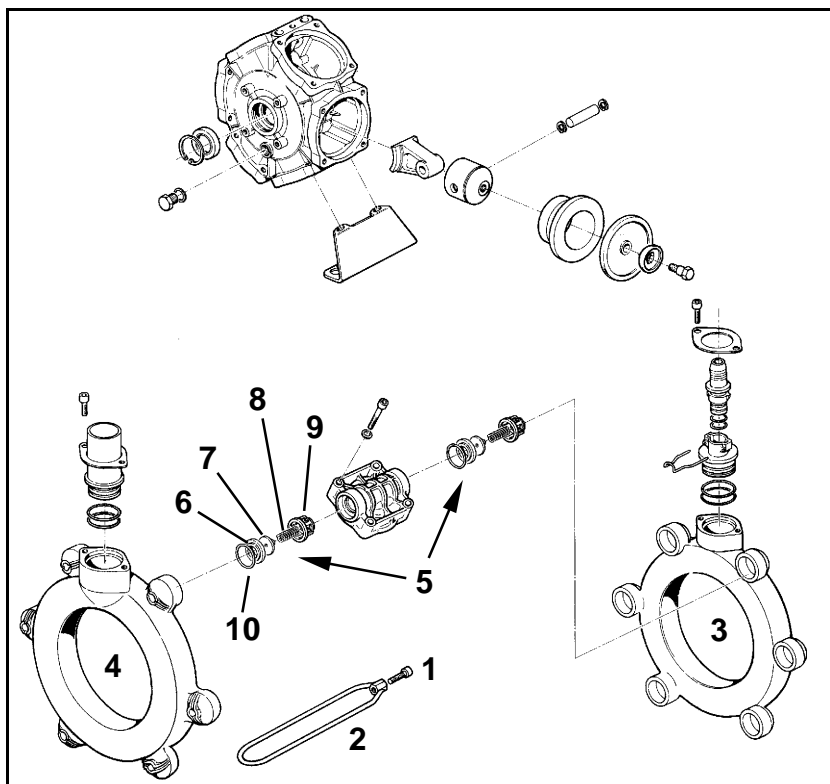

Fig. 220
- Pay attention to the fitting position of the suction- and pressure-side valves, before you remove the valve groups (Fig. 220/5).
- When refitting watch that the valve guide (Fig. 220/9) will not be damaged. Damage could lead to blockage of valves.
- Tighten bolts (Fig. 220/1) diagonally with the torque stated. Inaccurately tightened bolts will cause tensioning and thus leakage.
2. Slacken bolt (Fig. 220/1) and remove tensioning clamp (Fig. 220/2).
3. Take off suction- and pressure channel (Fig. 220/3 and Fig. 220/3).
4. Take off valve groups (Fig. 220/5).
5. Check for damage or wear of the valve seat (Fig. 220/6), valve (Fig. 220/7), valve spring (Fig. 220/8) and valve guide (Fig. 220/9).
6. Remove the O-ring (Fig. 220/10).
8. Mount the valve groups (Fig. 220/5) after checking and cleaning.
9. Fit new O-rings (Fig. 220/10).
10. Re-install suction (Fig. 220/3) and pressure channel (Fig. 220/4) to the pump housing and refit the tensioning clamp (Fig. 220/2).
11. Tighten the bolts (Fig. 220/1) always diagonally with a torque of **11 Nm**.